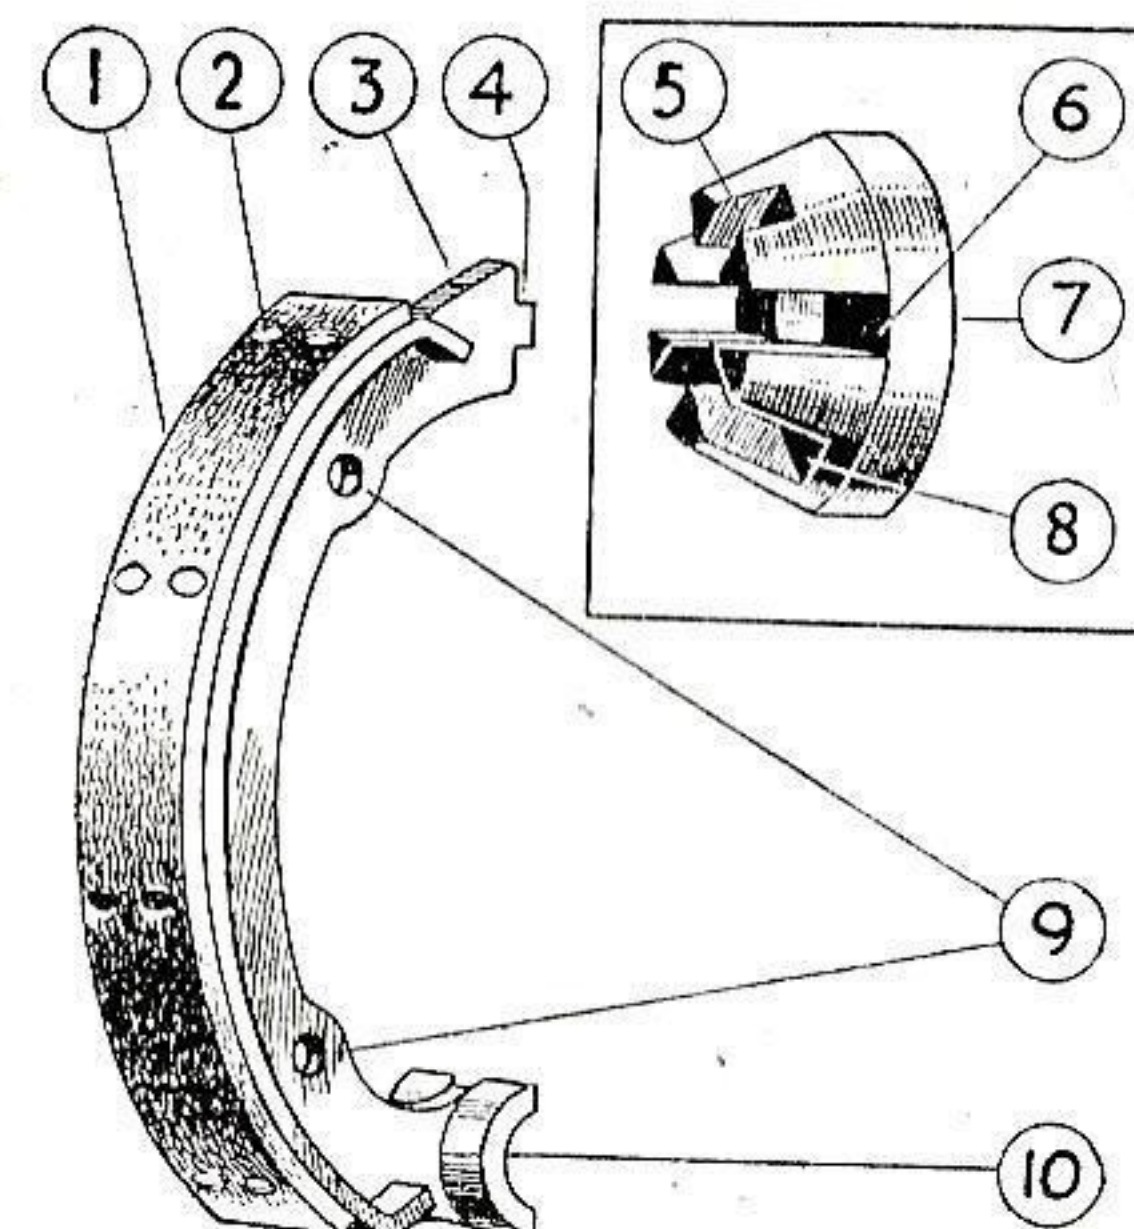

FIG. 78. BRAKE SHOE AND ADJUSTABLE THRUST COLLAR (1945-7)
The Collar. Each thrust collar (7) has machined slots (5), (6), (8) of varying depth (Fig. 78). To make a brake shoe adjustment, it is necessary to remove each collar from its shoe and turn it so that the slot next less in depth engages the brake shoe (3), on replacement of the shoe. The two shallow slots (5) are suitable where the brake linings are badly worn; the two medium depth
Centralizing Brake Shoes. If a front or rear brake cover plate has been removed from the wheel and the brake shoe assembly dismantled or disturbed, it is advisable to centralize both brake shoes in the brake drum during subsequent assembly. This ensures equal pressure being exerted by the lining (indicated at (1) in Figs. 78 and 79). A most annoying squeak occurring when